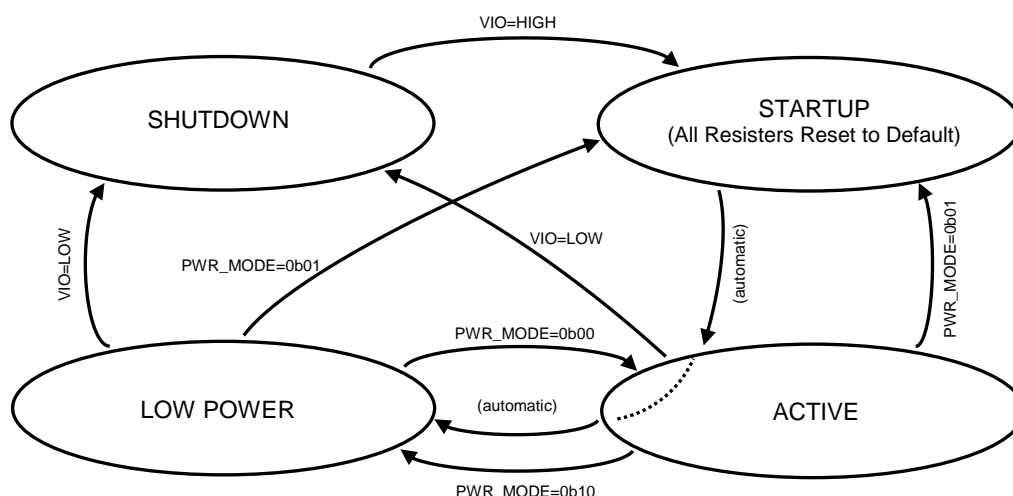

Figure 4. Slave State Diagram
- Figure 4, 5 and Table4 describes the RFASWY581CTF03 has four operating states.
The RFA5WY581CTF03 has four operating states, which are ACTIVE, SHUTDOWN, STATUP and LOW POWER. The transitions between these four states are set writing the PWR_MODE register or VIO as shown in Figure 4. The internal circuit operations in each operating state are shown in Table 4.